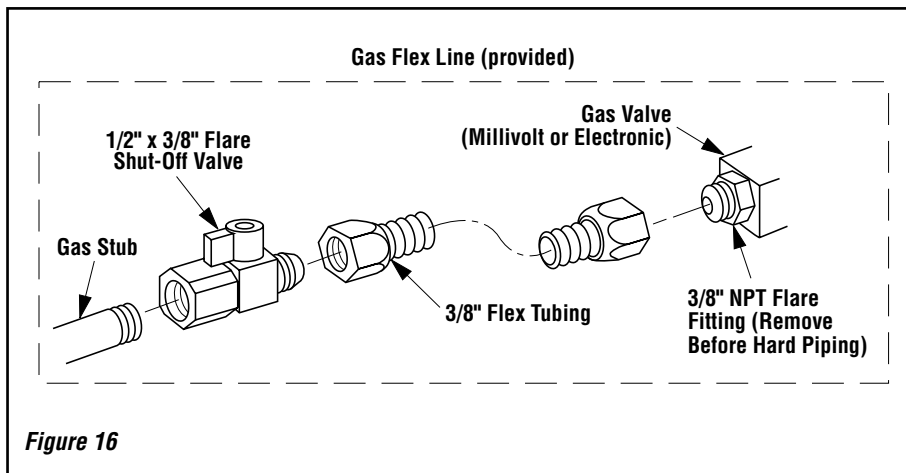

Figure 16
IMPORTANT: Ground lead must be connected to the green screw located on the outlet box. See Figure 16 on page 9. Failure to do so will result in a potential safety hazard. The appliance must be electrically grounded in accordance with local codes or, in the absence of local codes, the National Electrical Code, ANSI/NFPA 70-(latest edition). (In Canada, the current CSA C22-1 Canadian Electrical Code.)
Step 6. Connecting Gas Line – Make gas line connections. All codes require a shut-off valve mounted in the supply line. **Figure 16 on page 9** illustrates the method for connecting the gas supply. The flex-line method utilizing the gas flex line provided with the appliance is acceptable in the U.S., however, Canadian requirements vary depending on locality. Installation must be in compliance with local codes.